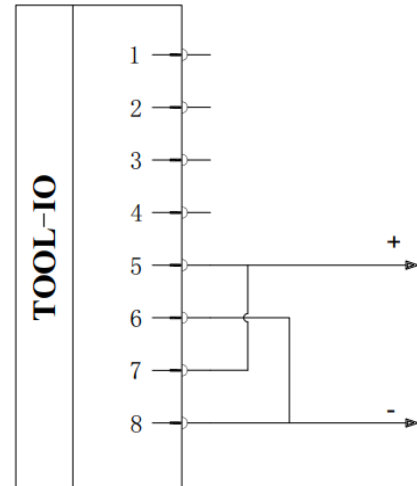

Figure 2-35 : Dual pin mode 2 connection
2) Wiring method: as shown in **Figure 2-35** , connect the power cable (5 gray) to the TI1/TO1/PWR1 cable (7 blue), and the ground cable (8 red) to the TI0/TO0/GND1 cable (6 pink).